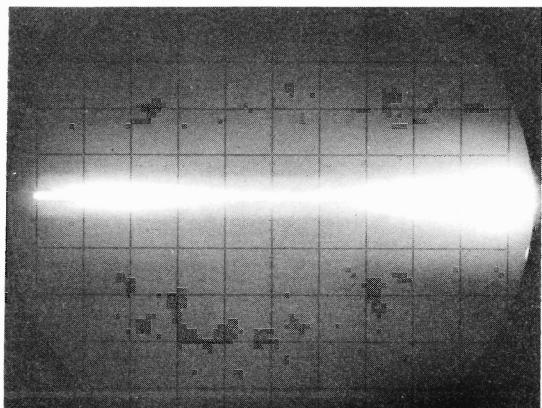
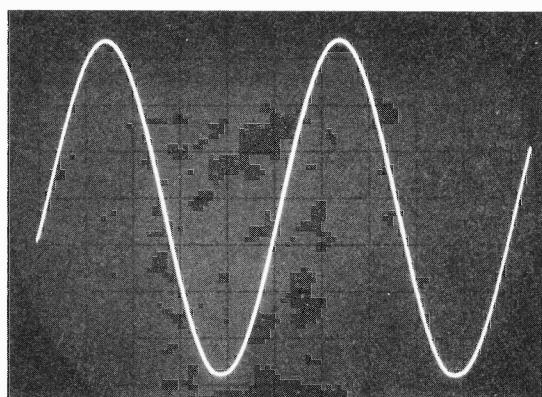

Figure 3-5. Single-shot trace bloom caused by INTENSITY and/or PERSISTENCE set too high
Figure 3-6. Single-shot display with INTENSITY and PERSISTENCE set the same as Figure 3-4
- g. BLOOM - A visible, non-symmetrical expansion of a display written on the CRT screen. (Figure 3-5.)
Trace blooming, Figure 3-5, is the best indicator of excessive INTENSITY which can damage the CRT. However, blooming does not occur when PERSISTENCE is set to NORMAL. Therefore, DO NOT INCREASE INTENSITY WHEN PERSISTENCE IS SET TO NORMAL. Always be sure to repeat above procedure each time sweep speed or input signals change.
3-28. To write with persistence or store a single-shot phenomena, trial setting of INTENSITY is the best approach. The amplitude of the phenomena and the sweep-time required to display it will affect the persistence. For example, with maximum PERSISTENCE and some settings of INTENSITY, a single-shot straight-line trace may bloom, Figure 3-5, and a single-shot signal with amplitude variations of several divisions may not cause blooms, Figure 3-6. To determine the best INTENSITY setting, connect a signal which approximates the sweep time and amplitude of the single-shot signal to be written. Set PERSISTENCE fully clockwise and trigger a single sweep of the test signal. Set the INTENSITY as far clockwise as possible without causing blooming.